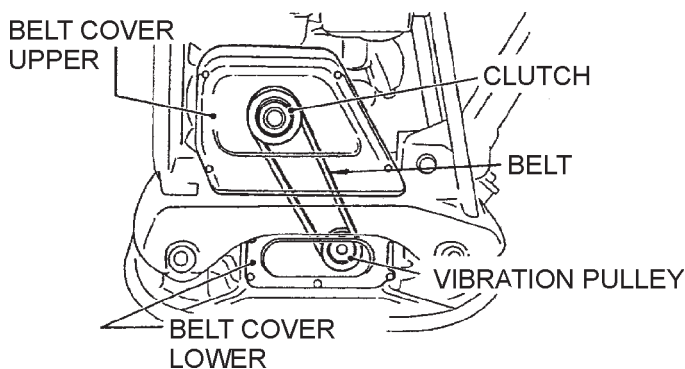

Figure 8. V-Belt Cover Removal
1. To check the V-belt tension (Figure 8), remove **upper** belt cover.